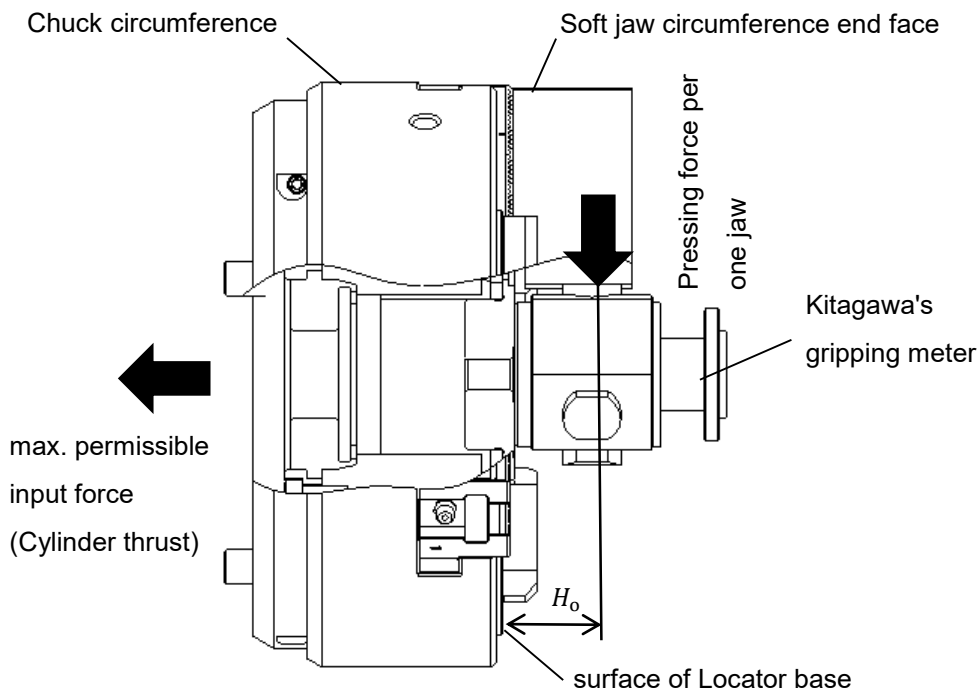

Figure 5 Gripping force measuring method
- The gripping force is measured by the Kitagawa's gripping meter, and the height of the gripping position is as shown in Figure 5. (Also refer to Table 5 at page 14)